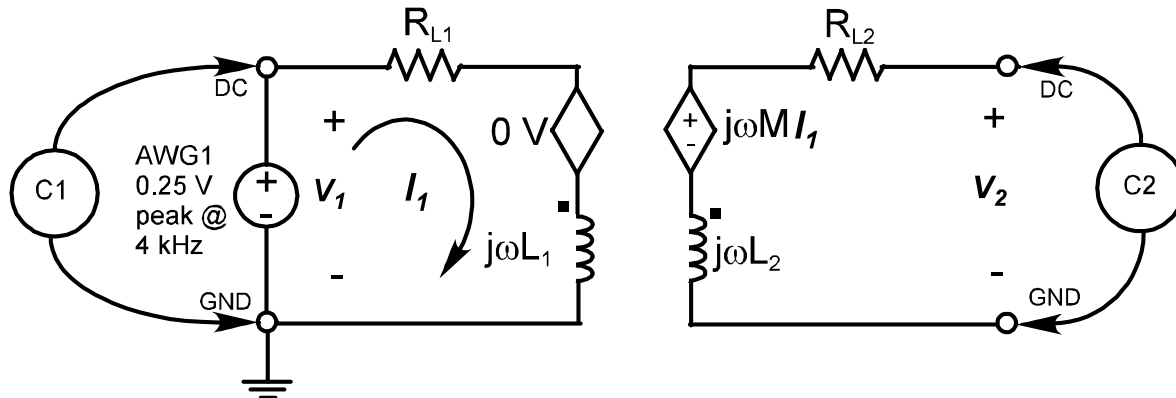

Figure 2 - Circuit Diagram for Mutual Inductance Measurement
- 2.4 **Measure the mutual inductance.** Turn AWG1 off by reducing its output to zero. Remove the $10\ \Omega$ resistor. Open-circuit the second coil and place it flat against the first then excite the first coil from AWG1 with $0.25\ \text{V}_{\text{peak}}$ (you may need to reduce the voltage to avoid saturating the coil look at the waveshape on the oscilloscope.) Use the oscilloscope to measure the coil voltages as shown in figure 2.